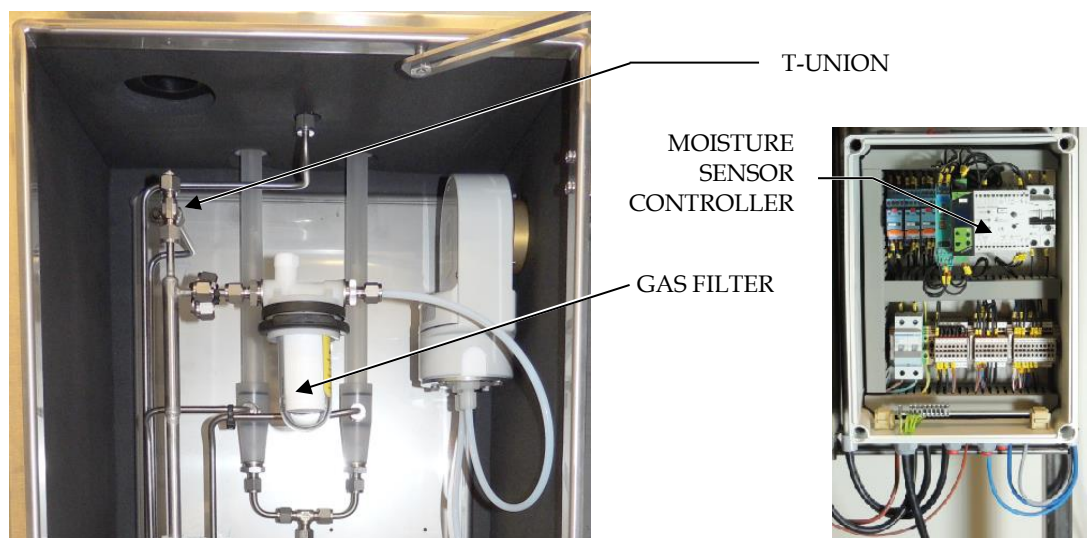

Figure 12 Disconnect heated sample line to make the system analyse ambient air
- 1) When scrubber is running and system is sampling, disconnect the heated sample line in SCS to make sure the sample is ambient air. Refer to Figure 12. Refer to Figure 1 for overview of installations.
- 2) Locate moisture sensor controller. Refer to Figure 12.
- 6) Re-connect heated sample line in SCS. Refer to Figure 12.